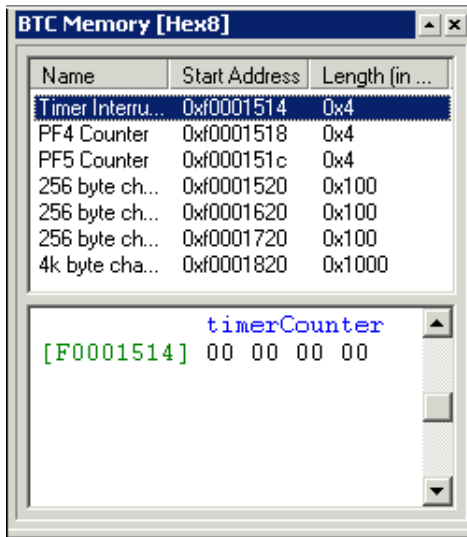

Figure 3-20. BTC Memory Window with Map
**Show Map** – When this option is enabled, a map of all the defined channels is displayed, as shown in Figure 3-20 on page 3-29.